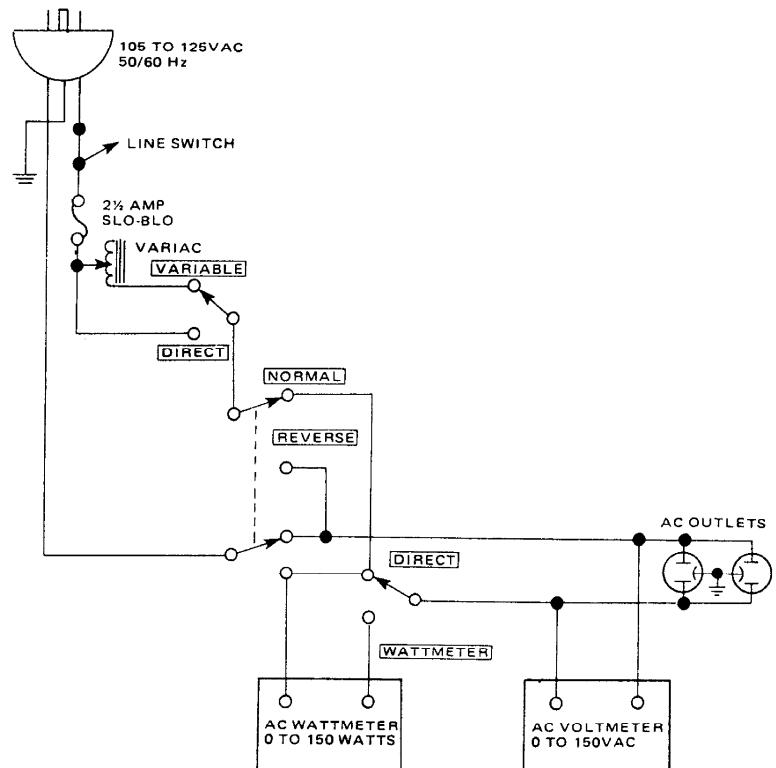

Figure 1. AC Power Control Box Simplified Schematic
Table 1 lists the test equipment required for servicing the Model 1050/1072 Stereo Console Amplifier.* The wattmeter, AC voltmeter, and variable autotransformer may be assembled as a test fixture as shown schematically in Figure 1. The load resistors and AC ammeter may be assembled into a second test fixture as shown in Figure 2.
1. Make the test setup shown in Figure 1 with the instrument controls set in the following positions: